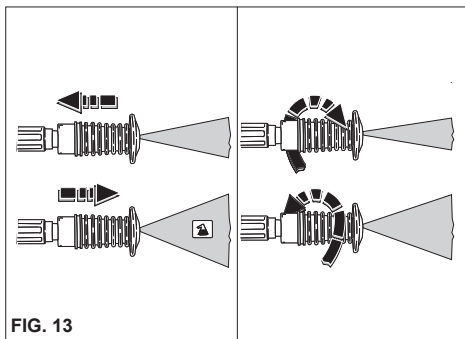

FIG. 13
### USING THE MULTIREG ADJUSTABLE NOZZLE (fig. 13)
- When the water cleaner is not used, close the safety device on the handle.(fig. 13).
- 2) Start the cleaner, activate the detergent suction control on the lance (fig. 13) and spray the surface to be washed, working from the bottom upwards. Leave to work for a few minutes..